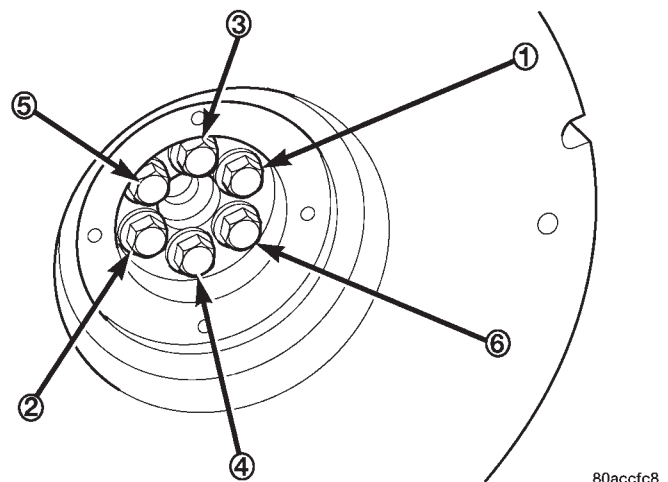

Fig. 10 Flywheel Bolt Tightening Pattern
- (4) Install and tighten new flywheel bolts as follows:
- (b) Install and tighten bolts to initial torque of 20 N·m. Tighten bolts diagonally in pairs (Fig. 10).
- (5) Install clutch disc and cover (refer to procedure in this section).
- (6) Install transmission and transfer case.